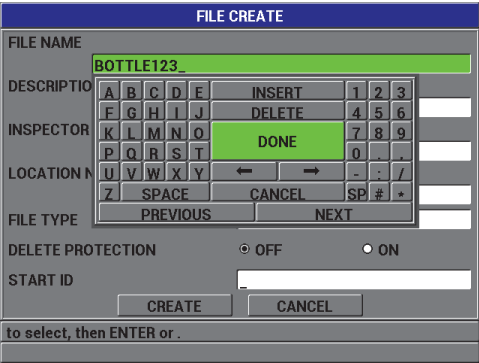

Figure 7-2 The FILE CREATE screen
2. In the **FILE CREATE** screen (see Figure 7-2 on page 114):